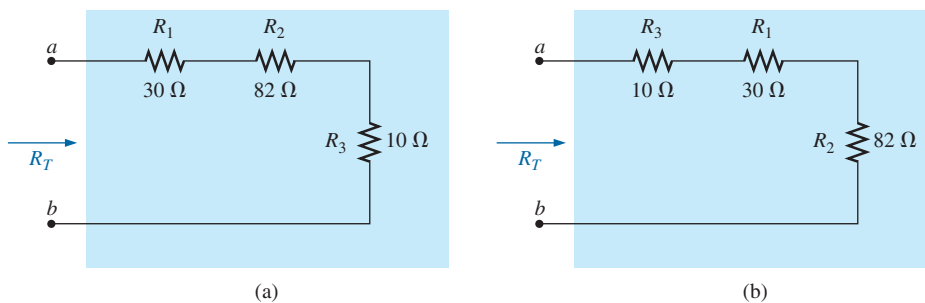

**FIG. 5.7**
**EXAMPLE 5.2** Find the total resistance of the series resistors in Fig. 5.7. Again, recognize  $3.3 \text{ k}\Omega$  as a standard value.